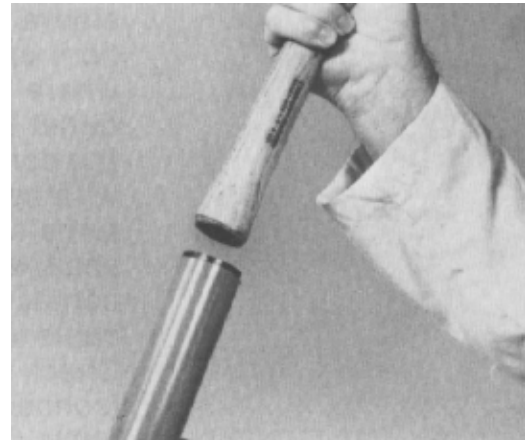
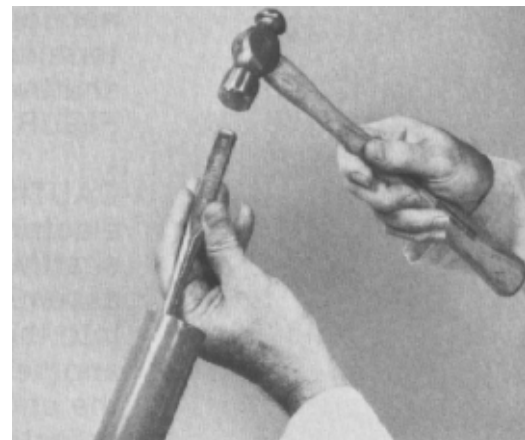

Figure 82
Figure 83
2. If the bushing was removed from the upper cover and jacket for replacement, press a new bushing into the upper end of the jacket tube with the recessed end of the bushing toward the jacket tube. Use an arbor press or the wood handle end of a hammer (Fig. 82). Push the bushing down until it is 0.1 in. (2.5 mm) below the top of the jacket tube. Use a pliers or punch to “crimp” the end of the jacket tube over the bushing in two places approximately 90° away from the original crimped areas (Fig. 83). Put clean multi-purpose grease on the inside of the bushing.